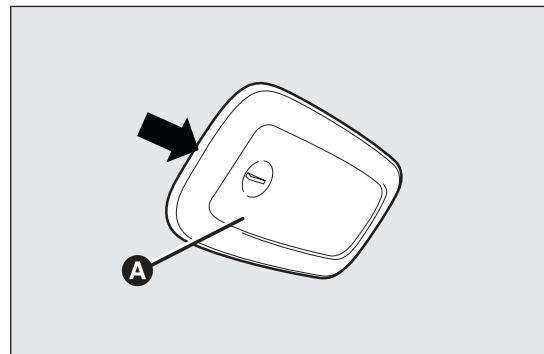

fig. 176
- ☐ operate in the point shown by the arrow and remove roof light A fig. 176;